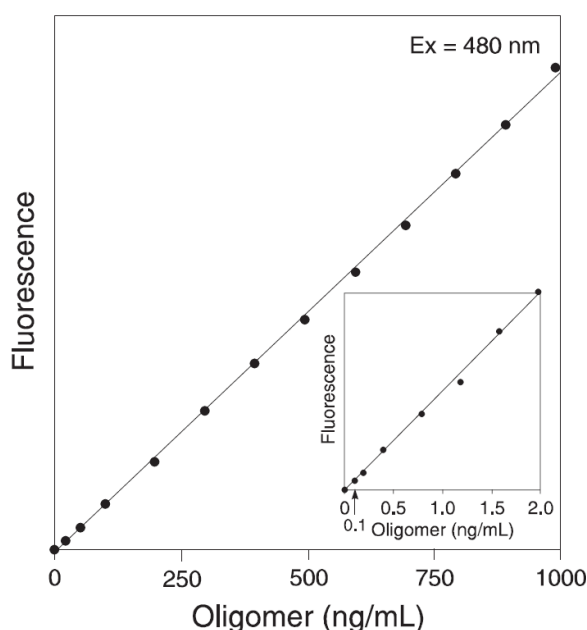

Figure 1 Linear quantification of a synthetic 24-mer (an M13 sequencing primer) from 0.1 to 1,000 ng/mL using the Quant-iT™ OliGreen™ ssDNA Assay Reagent.
The Quant-iT™ OliGreen™ ssDNA Assay Reagent is an ultrasensitive fluorescent nucleic acid stain for quantifying oligonucleotides and single-stranded DNA (ssDNA) in solution (Figure 1). Short, synthetic oligonucleotides are used in many molecular biology techniques, such as DNA sequencing, site-directed mutagenesis, DNA amplification, and *in situ* hybridization. Unfortunately, the classic methods for quantifying oligonucleotides are not very sensitive and often require a highly concentrated sample.
The linear detection range of the Quant-iT™ OliGreen™ assay in a standard fluorometer extends over 4 orders of magnitude in oligonucleotide concentration (100 pg/mL to 1 µg/mL) with a single dye concentration (Figure 1). Moreover, we have shown that this linearity is maintained in the presence of several compounds commonly found to contaminate nucleic acid preparations, including salts, urea, ethanol, chloroform, detergents, proteins, ATP, and agarose; however, many of these compounds do affect the signal intensity (see “Effects of common contaminants” on page 4).
5. Subtract the fluorescence value of the reagent blank from that of each of the samples. Use corrected data to generate a standard curve of fluorescence versus oligonucleotide concentration (Figure 1).